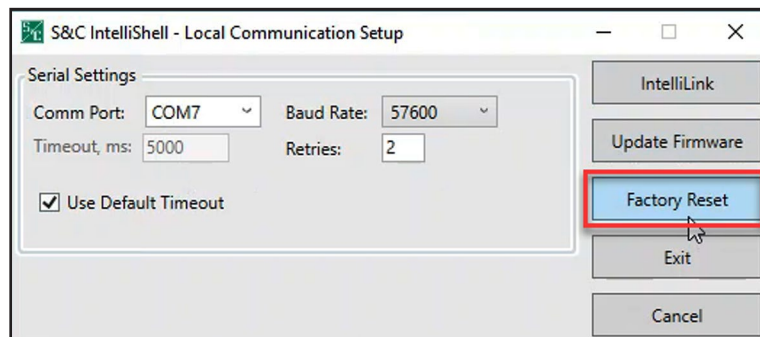

Figure 55. The Factory Reset button.
STEP 3. Click on the **Factory Reset** option to launch the **Factory Reset** procedure. See Figure 55.